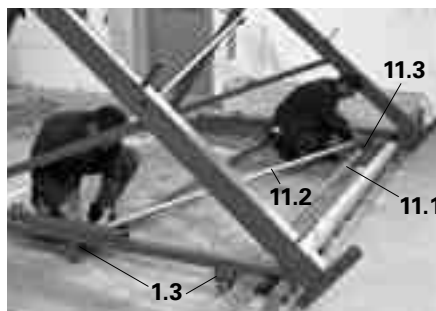

Fig. A1.08
8. Brace with diagonal scaffold tube (11.2) and two swivel couplings (11.3). (Fig. A1.08)